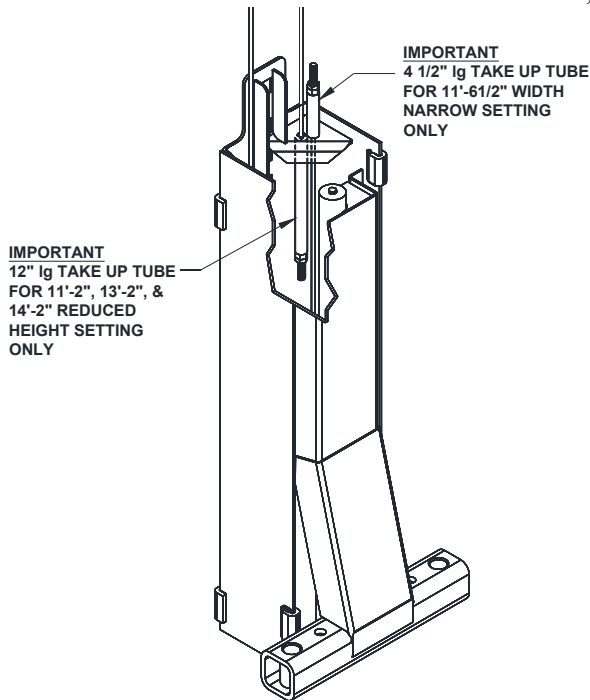

Fig. 8a – Cable Assembly
- 25) Mount synchronizer cables to carriages as shown in **Fig. 8a**. **Note: The 4 1/2" & 12" take up tubes are to take up the sync. cable slack when the lift is in the Narrow or Reduced Height setting. These take up tubes cannot be stacked together. The 4 1/2" take up tube can be installed inside the carriage if the 12" take up tube is not being used.**